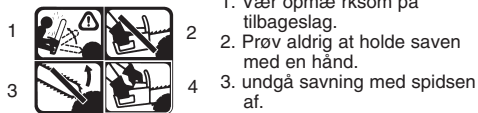

Fig. 1
• FORKLARING PÅ SYMBOLER(FIG. 1)